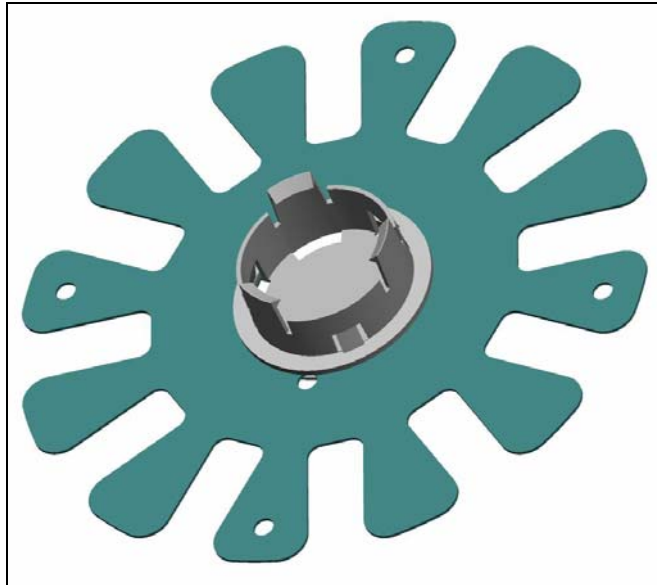

Figure 3. Tank Wall Guide
2. Remove the probe Tank Wall Guide from the shipping container (Figure 3).